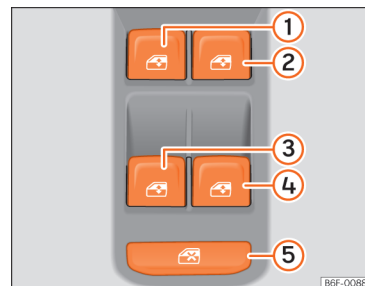

Fig. 95 Detail of the driver's door: window controls.
The safety control »» » Fig. 95 ⑤ on the driver door can be used to disable the electric window buttons on the rear doors.